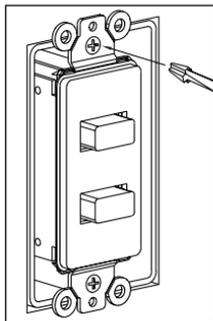

Figure 4
4. Secure the AB-2D to the electrical box or p-ring. Insert the 1 1/4" long device screws into the oblong-shaped screw holes on the top and bottom of the AB-2D. Note that the oblong shape of the screw holes allow you to position the AB-2D so that it is vertical. Position the AB-2D so that the screws are aligned with the threaded holes in the electrical box or p-ring. Tighten the screws using a phillips screwdriver. **DO NOT OVER-TIGHTEN.** In some instances, you may need to loosen these screws several turns to allow the AB-2D to fit flush with the Decora cover plate. See **(Figure 4)**.